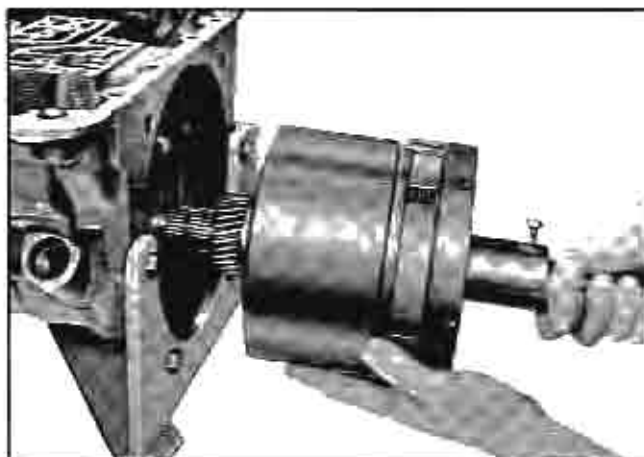

Fig. 61 Removing Rear Unit
11. Slide rear unit, neutral clutch, and case center support assembly out front end of case (Fig. 61).